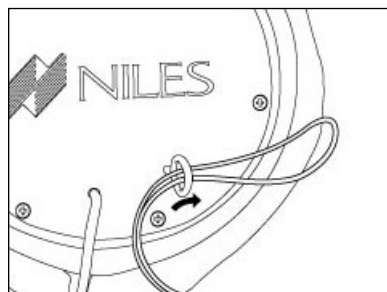

Figure 8 Security Cable in Eyelet
2. Take the nylon security cable, supplied with the loudspeaker and fold it in half. Using the middle of the cable, feed it through the Security Attachment Eyelet as shown in **Figure 8**.